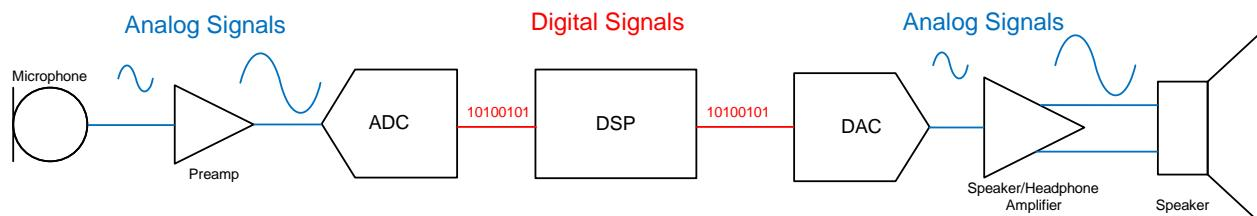
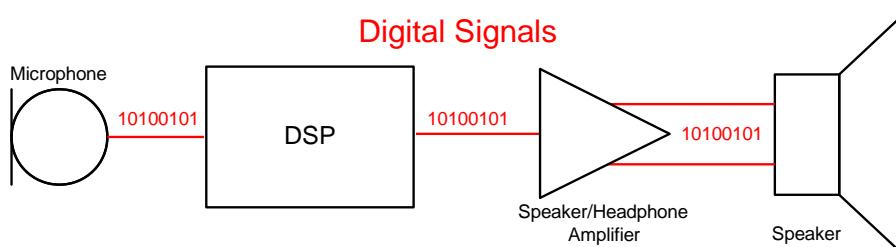

Figure 1. Traditional Audio Signal Chain
Figure 2. Fully Digital Audio Signal Chain
As audio integrated circuit (IC) designs move to finer geometries, it becomes more difficult to design, and less cost-effective to integrate high-performance analog circuits on the same piece of silicon with high-density digital circuits. Audio system architects are pushing analog portions of an audio signal chain further towards the input and output transducers and connecting everything in between digitally. As the analog circuits are pushed to the edges of the signal chain, digital interfaces between ICs in the chain become more prevalent. DSPs have always had digital connections, but now digital interfaces are being included on the transducers and amplifiers that usually have had only analog interfaces. A traditional audio signal chain may have analog signal connections between microphones, preamps, ADCs, DACs, output amplifiers, and speakers, as shown in Figure 1. IC designers are integrating the ADCs, DACs, and modulators in the transducers on opposite ends of the signal chain, which eliminates the need to route any analog audio signals on the PCB, as well as reduces the number of devices in the signal chain. Figure 2 shows an example of a completely-digital audio signal chain.